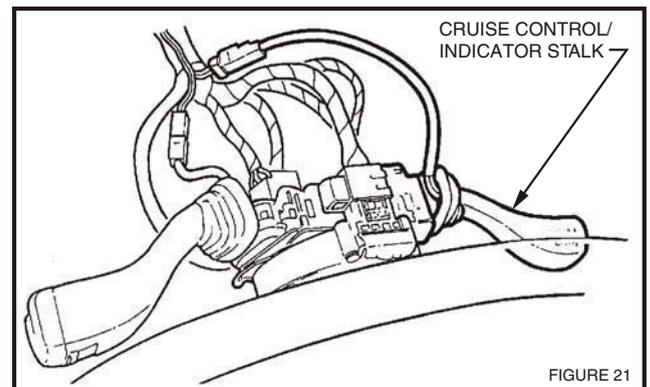

FIGURE 21
47. Route patch harness up alongside steering column wiring harness to stalk switches, refer fig. 21.
48. Disconnect RH indicator switch connector, remove indicator stalk and replace with cruise control/indicator stalk from cruise control package, refer fig. 21.
49. Connect patch harness connector to stalk switch, refer fig. 21.